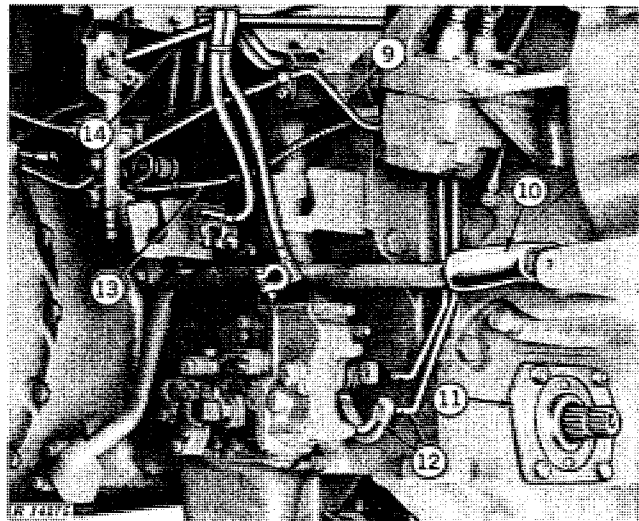

Fig. 10 - Right Side of Transmission Case
9. Disconnect the right-hand and left-hand brake pipes (Fig. 10).